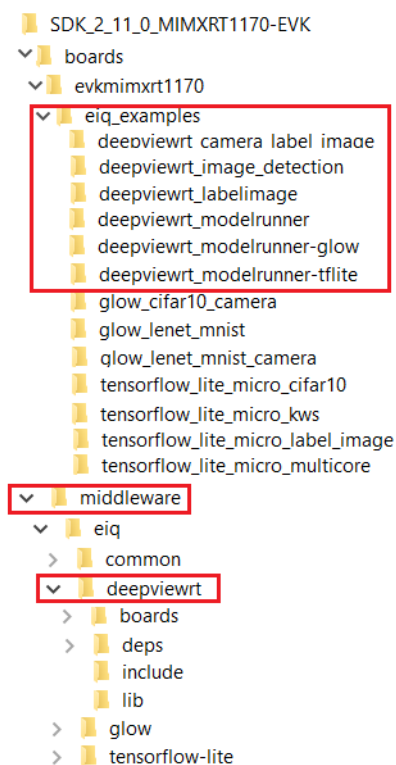

Figure 2. Directory structure
- Once the MCUXpresso SDK package is downloaded, extract it in a folder on your local machine. Alternatively, import the package into the MCUXpresso IDE. For more information on the MCUXpresso SDK folder structure, see the Getting Started with MCUXpresso SDK User's Guide (document: MCUXSDKGSUG). Figure 2 shows the package directory structure. The eiQ deepviewRT sample directories are highlighted in red.